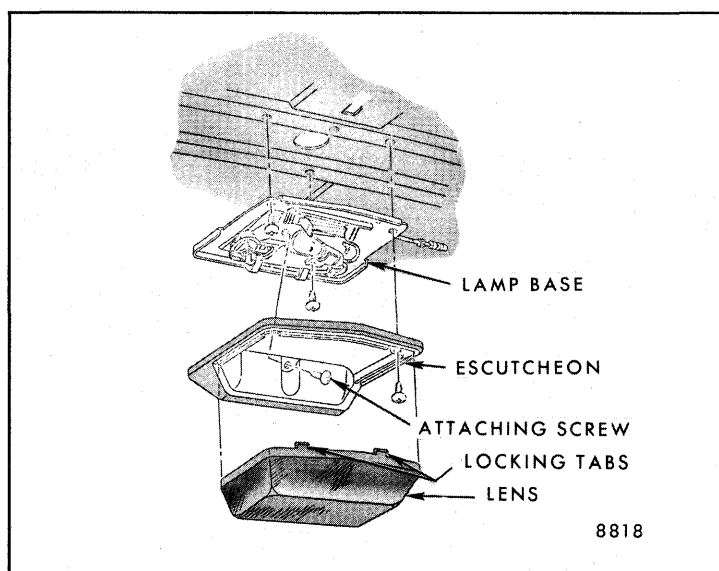

Fig. 8-6-Dome Lamp
The dome lamp operates in conjunction with the door jamb switch and/or the headlamp switch. The reading lamp feature operates by activating on-off switch. This feature is an integral part of the lamp assembly. The lamp harness extends up the left windshield pillar, inboard of the sunshade support and across the roof inner panel to the lamp assembly. Clips in the harness attach to retaining slots in the roof inner panel. Circuit diagrams are illustrated in the Electrical Section of this manual. Dome reading lamp removal is shown in Figure 8-6.
3. Remove two (2) lamp housing attaching screws (Fig. 8-6).
4. Remove two (2) lamp base to roof inner panel attaching screws and disconnect feed wire connector.